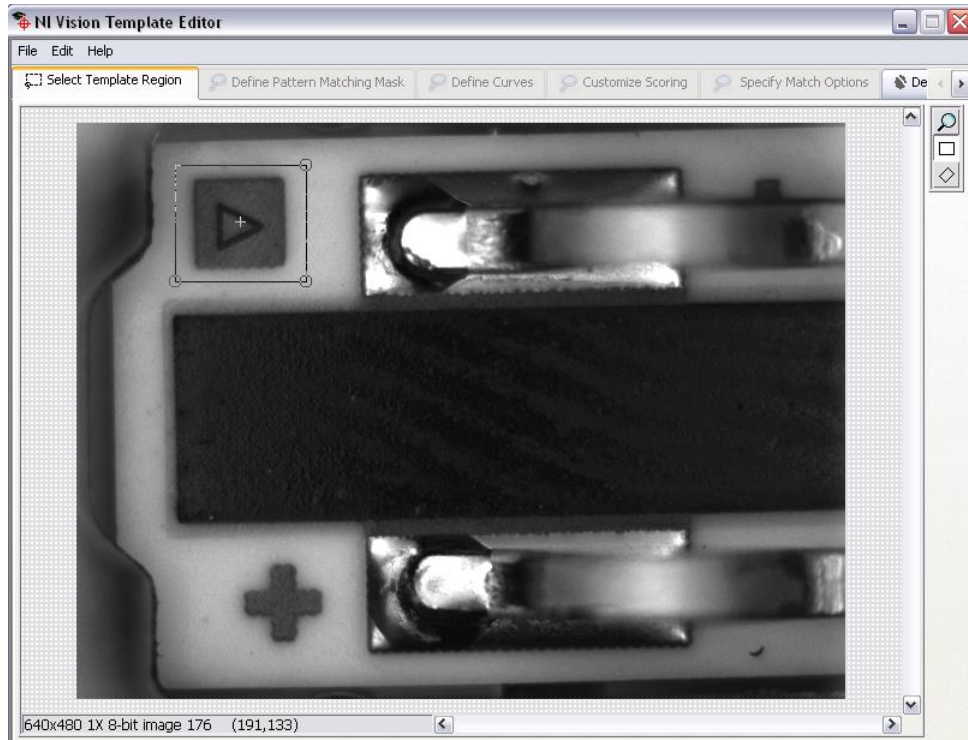

Figure 41. Draw a template region on the image.
3. Define an area to make the template from [Figure 41].